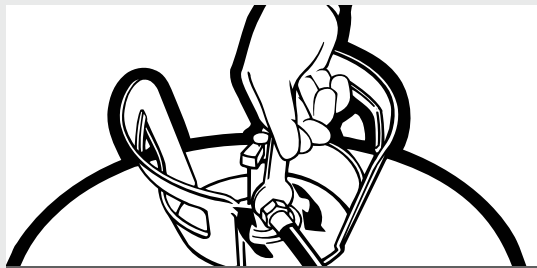

Figure 2.
3. Apply a coating of petroleum jelly to the inside face of the Insta-Flo™ Dispenser. This makes cleaning of the dispenser face much easier and extends the effective life of the Insta-Flo™ Dispenser. (See figure 2)